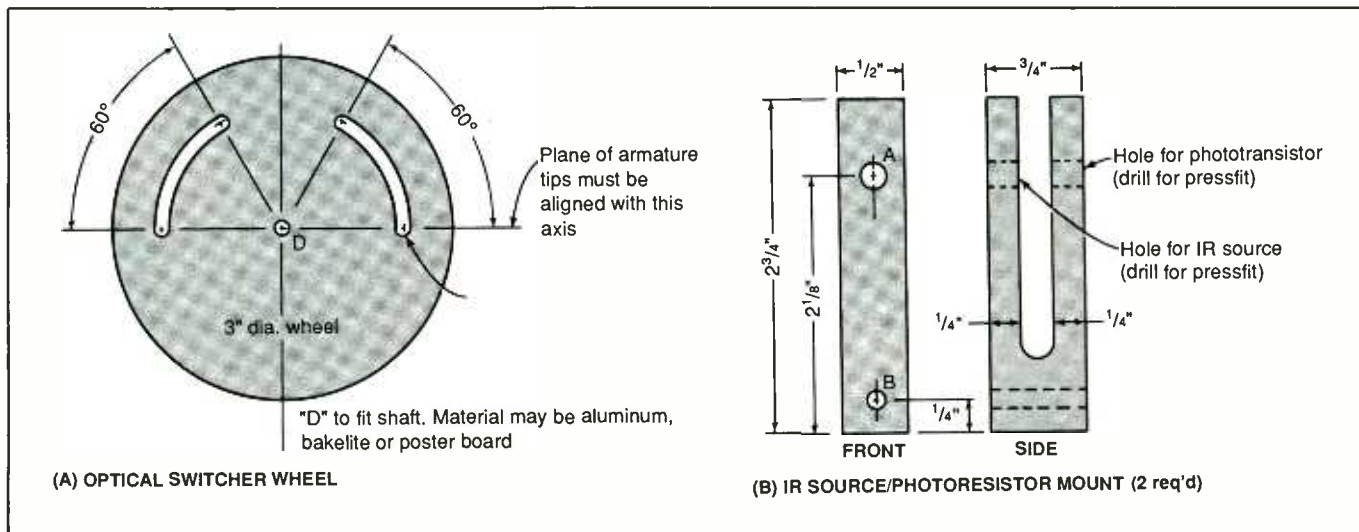

Fig. 3. Fabrication details for optical wheel (A) and IR source/receptor yoke mounts (B).
Whichever material you do use, start with a 4-inch square to allow sufficient excess for trimming. Locate the center of this square by drawing diagonal lines to opposite corners. Then, using a compass, scribe or draw a 3-inch-diameter circle on the material, centered at the point where the diagonal lines cross. Next, measure 1/6 in from the circumference of the circle and scribe or draw another concentric circle, referring to Fig. 3(A) for details.
Referring to Fig. 3(B), fabricate the yokes from strips of  $\frac{3}{4} \times \frac{1}{2}$ -inch pieces of clear pine. After cutting them both to a length of  $2\frac{3}{4}$  inches, mark the locations for the holes to be drilled. For holes A, make center-point marks on both sides of the wood pieces since you may have to drill different-size holes through both arms of the yokes to accommodate LED and phototransistor cases that are different diameters. Holes B